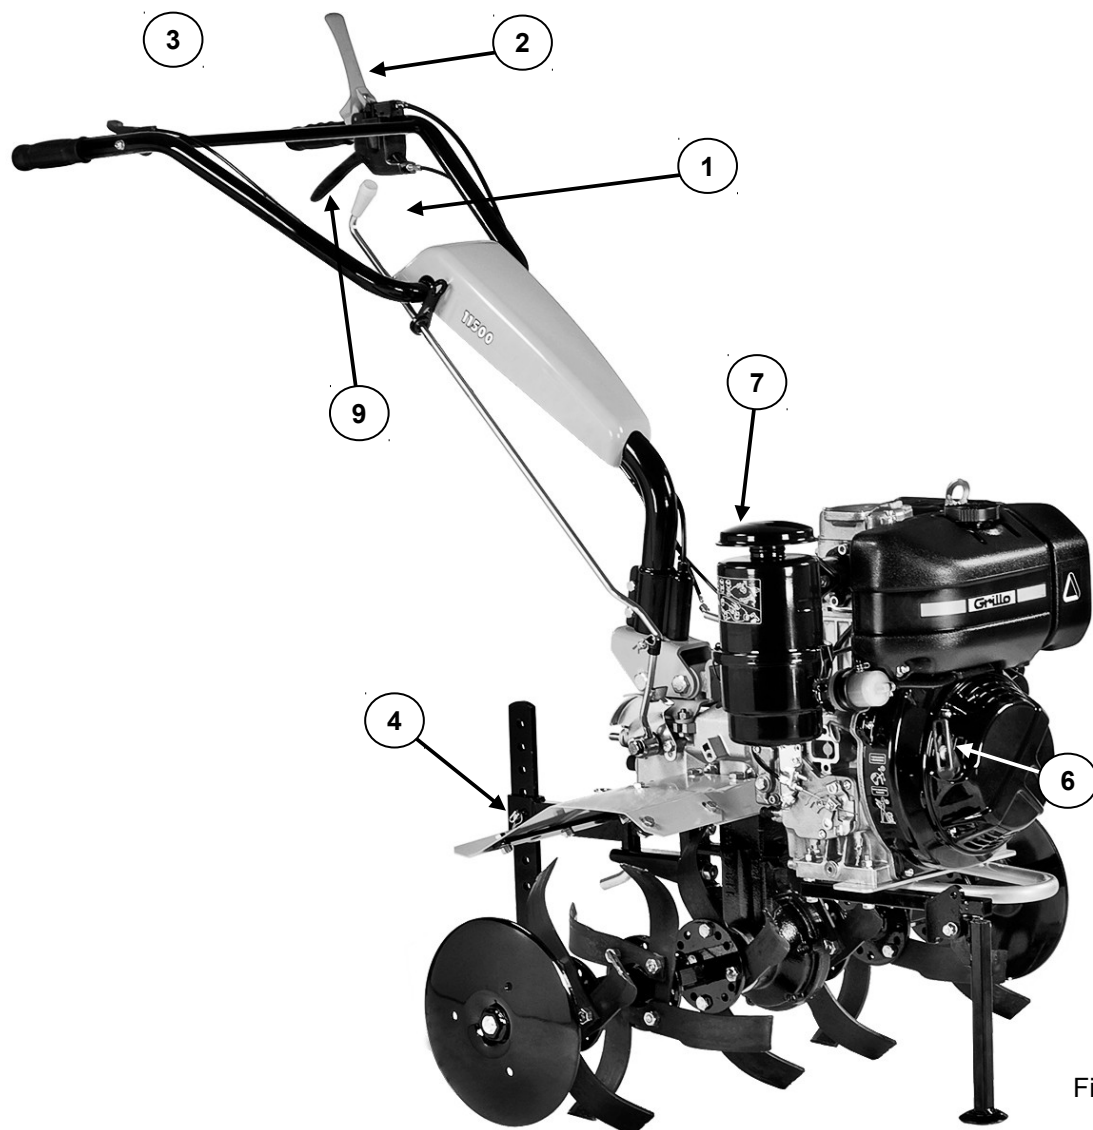

Fig. 1
**DESCRIPTION OF CONTROLS (FIG. 1 – FIG. 1A-1B)**
**DESCRIZIONE COMANDI (FIG. 1 – FIG. 1A-1B)**
**DESCRIPTION COMMANDES (FIG. 1 – FIG. 1A-1B)**
**BESCHREIBUNG DER STEUERVORRICHTUNGEN (ABB. 1 – ABB. 1A-1B)**
**DESCRIPCIÓN MANDOS (FIG. 1 – FIG. 1A-1B)**
**DESCRICAÇÃO DOS MANDOS (FIG. 1 – FIG. 1A-1B)**